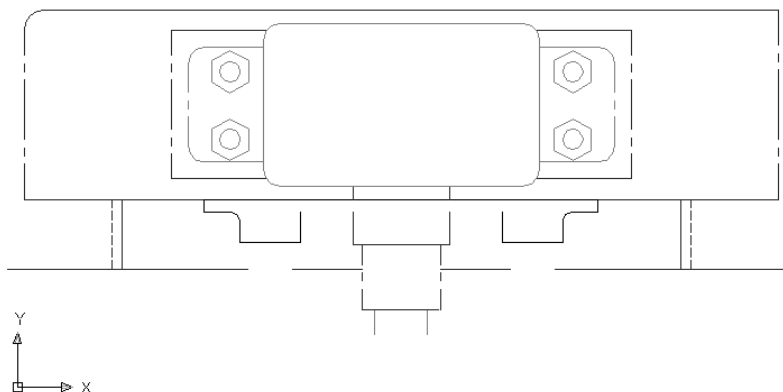

**Figure 10-34:** The filleted drawing.
8. Save your drawing. It should look like Figure 10-34.